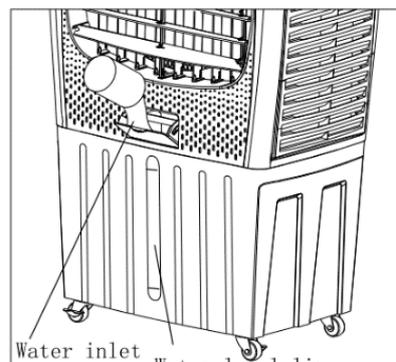

fig.2
4. Add water from the water inlet on the front cabinet.(shown as fig.2)
- a) **Water level must be between the MIN and MAX line.(shown as fig.2)**